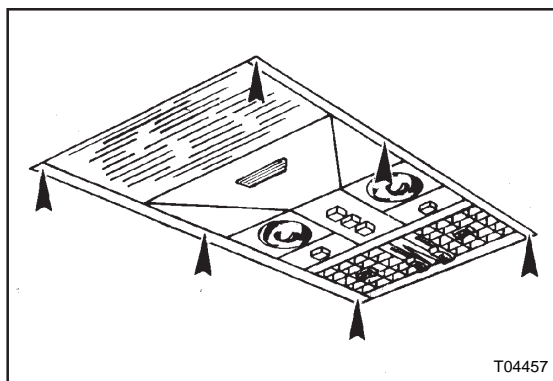

Figure 6: Passenger light and ventilation control panel
3. Remove the rearmost passenger light and ventilation control panel from the left hand parcel rack by withdrawing the six retaining screws (see Figure 6).